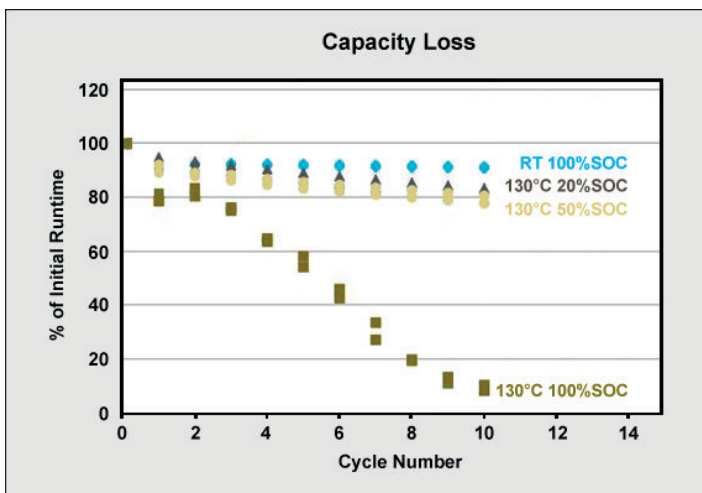

Figure 5: Capacity loss at room temperature (RT) and 130°C for 90 minutes [3]
Capacity loss at elevated temperature is in direct relationship with state-of-charge (SoC). Figure 5 illustrates the effect of Li-cobalt (LiCoO₂) that is first cycled at room temperature (RT) and then heated to 130°C (266°F) for 90 minutes and cycled at 20, 50 and 100 percent SoC. There is no noticeable capacity loss at room temperature. At 130°C with a 20 percent SoC, a slight capacity loss is visible over 10 cycles. This loss is higher with a 50 percent SoC and shows a devastating effect when cycled at full charge.